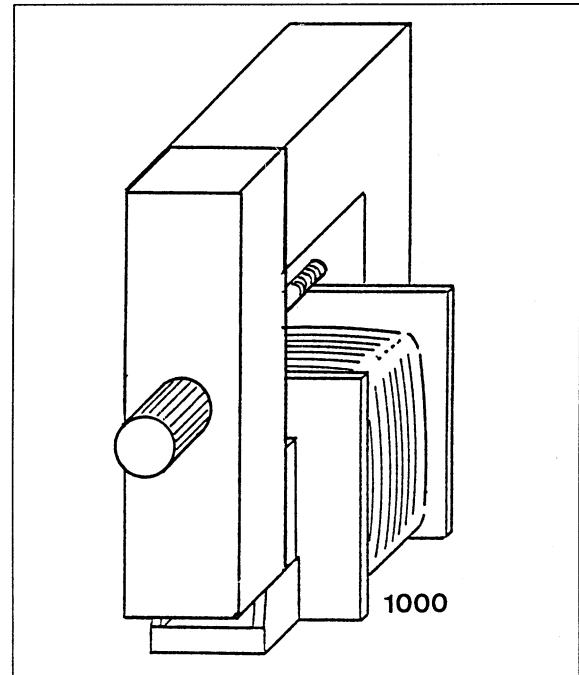

Fig. 3 Coil with U-core (vertical arrangement) and I-core mounted as yoke
7. Screw the I-core to the U-core as a yoke with the bare side inward. ► Fig. 3. Measure U and I and write down the values. ► table 1, c).
15. Screw the I-core to the U-core as a yoke. ► Fig. 3.